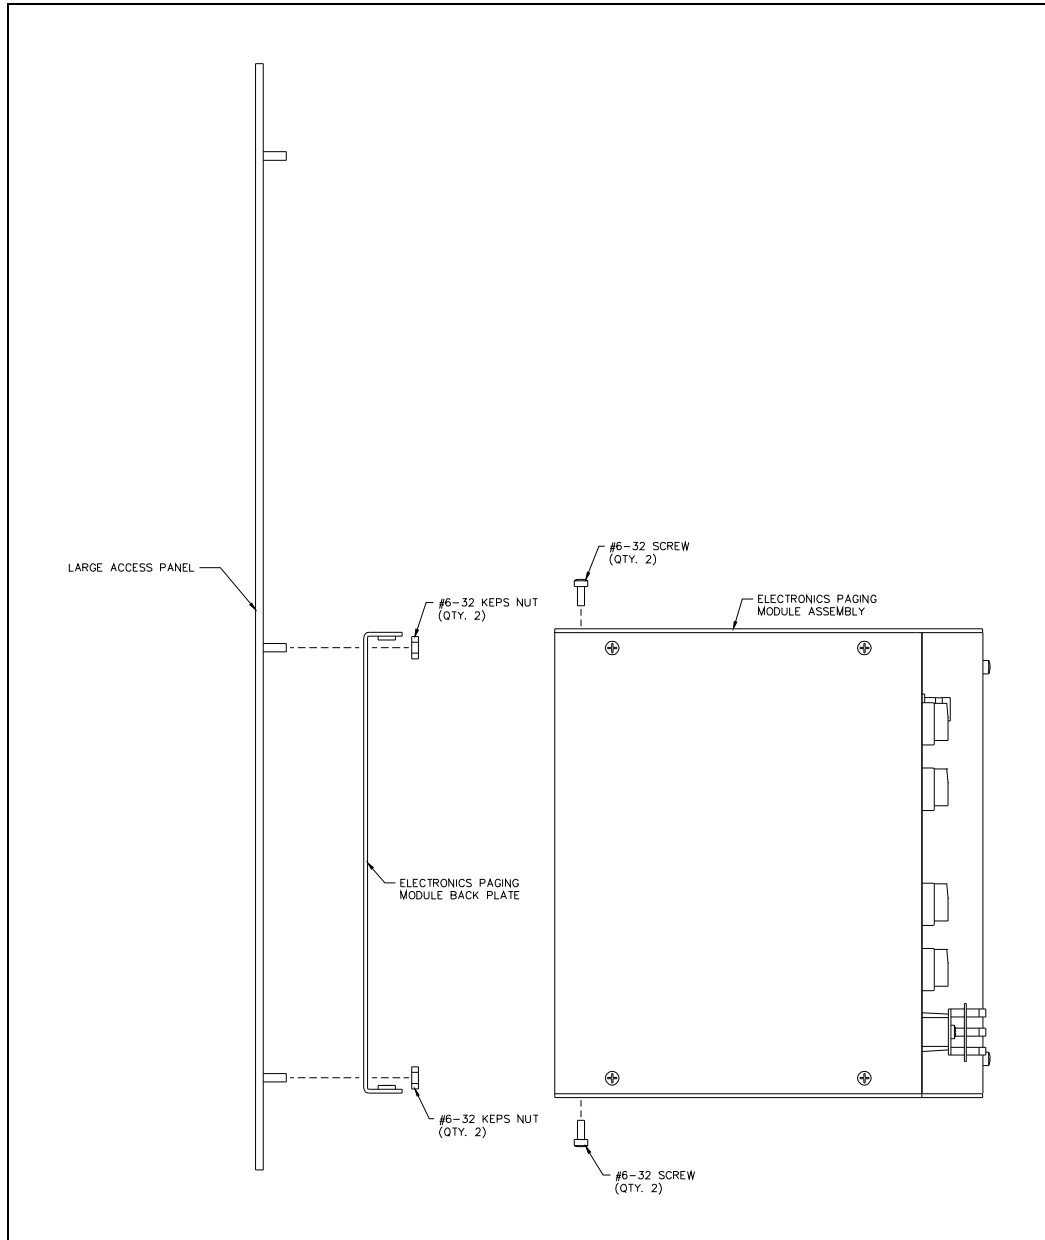

Figure 4. Exploded View of Paging Module
2. Remove the back plate from the paging module by removing the four #6-32 screws. Refer to Figure 4.